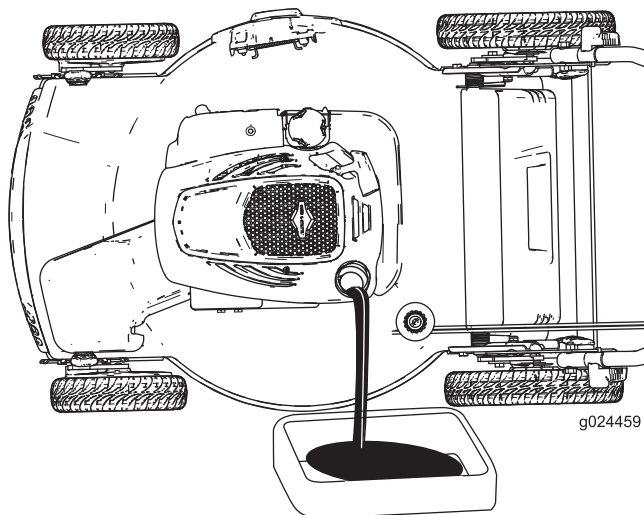
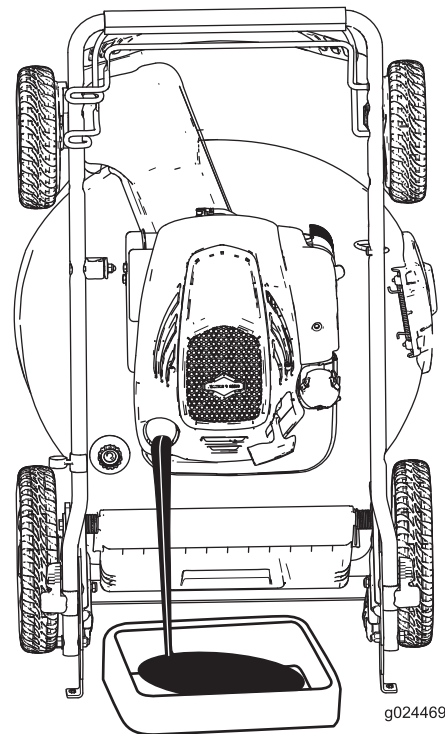

Figure 23
Figure 24
4. Tip the machine onto its side with the dipstick down (Figure 23) or set the machine in the vertical-stow position (Figure 24; refer to Storing the Machine in the Vertical-Stow Position (page 12)) to drain the used oil out through the oil-fill tube.